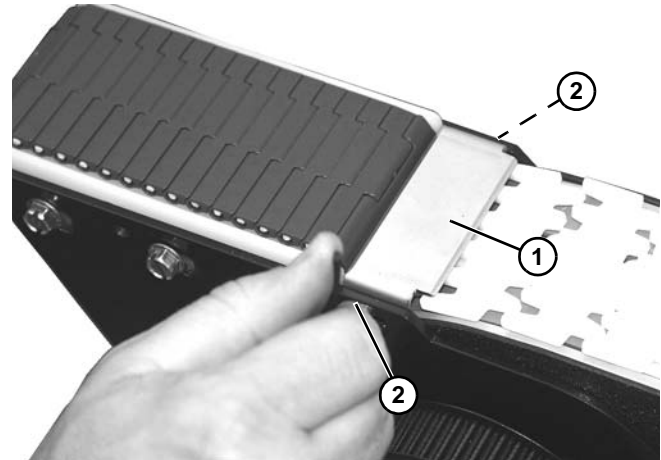

Figure 175
8. Install pinch guard (Figure 175, item 1) with two socket head screws (Figure 175, item 2).